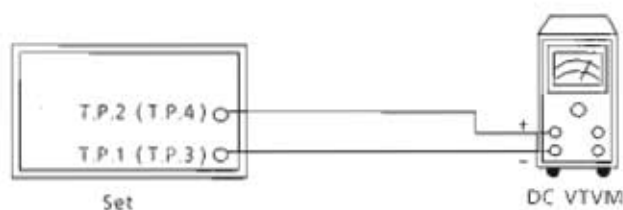

Figure 11
### (1) Idling Adjustment (Figure 11)